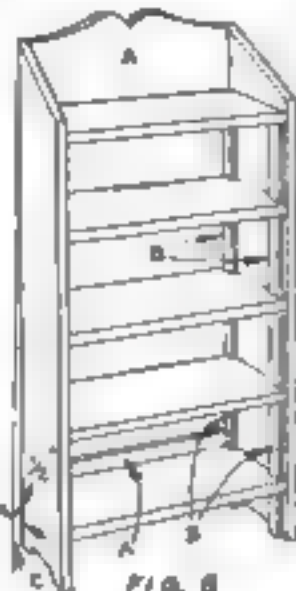
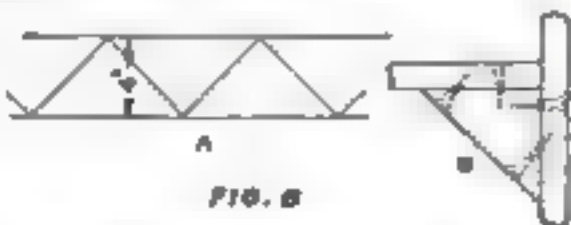

FIG. 6
FIG. 8
Yes. Shelves built as suggested in Fig. 6 and fastened with nails or screws.
4. The case may be braced by backboards as in Fig. 6, or with corner blocks as suggested in Fig. 8. A board 4 in. wide is sawed to make blocks as suggested at A, and the blocks are fastened under the top and bottom shelves with glue and 1 1/2-in. No. 10 screws as at B in Fig. 8.—C. A. K.
Corner blocks held in place with screws may be substituted for the backboards shown in Fig. 6.